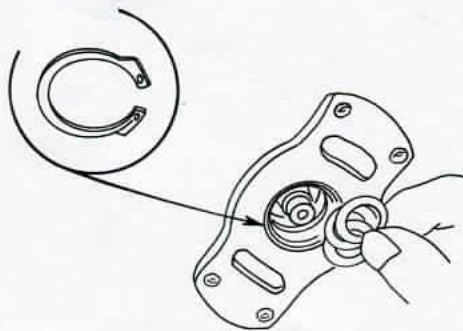

Fig. 3
- Insert the other 0.8mm shims and the other ring (closing pliers) (fig. 3).
- If there is too much side play, perform an adjustment using 0.1mm shims (fig. 3).